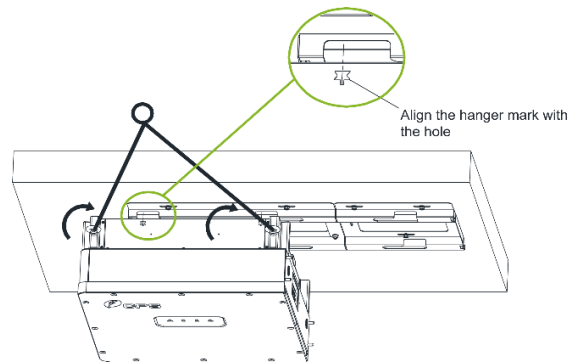

Figure 3-11 Mount the Main Enclosure on the Bracket by Lifting Sling
- b. Following one of the two methods listed below (lift mounting or manual mounting) mount the main enclosure by aligning the mark on the top of the main unit with the opening of the wall bracket (Figure 3-11), setting the main enclosure in the track.
- **Lift mounting:** Screw two (2) lifting eye bolts M10 into the studs at the top of the inverter, then use a sling rope or bar (inserted through both lifting eye bolts) to lift the inverter onto the bracket. The minimum angle between the two sling ropes must be less than 90° (Figure 3-11).